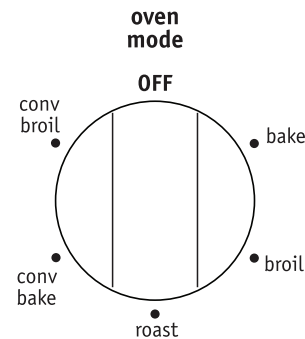

Figure 25: Oven mode knob
3. Turn the **oven mode** knob to the **roast** position (Figure 25).